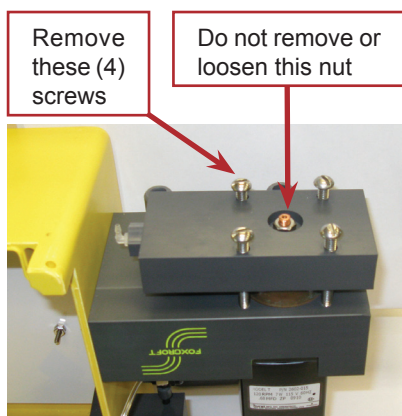

Figure 40
- 4a. While holding the bottom block of the flow cell, unfasten and remove the four bottom screws of the assembly (**Figure 40**).